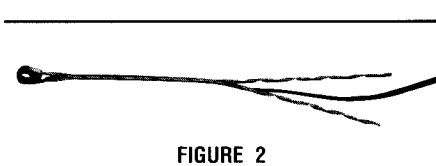

FIGURE 2
4. Complete the application by wrapping both legs simultaneously (keeping legs opposite each other) or alternating legs half a wrap at a time (figure 2).